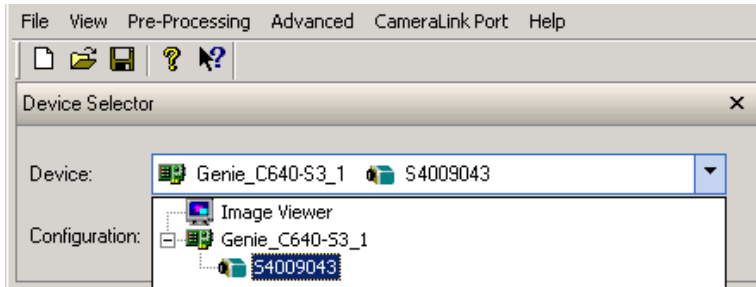

Figure 30. Selecting a Camera
2. If more than one camera is connected, pull down the “Device” list and click on the camera name (“Camera1” in Figure 30) to select that camera for editing. The parameter settings for the selected camera, are displayed in the Parameters pane.
Several Camera Configuration files are included on the GEVA, in the CamExpert default directory: D:\DALSA\Sapera\CamFiles\User. You can load a file that matches the model of your camera. First click on the camera name (“Camera1” in Figure 30) and then click the file open button, or select File>Open.